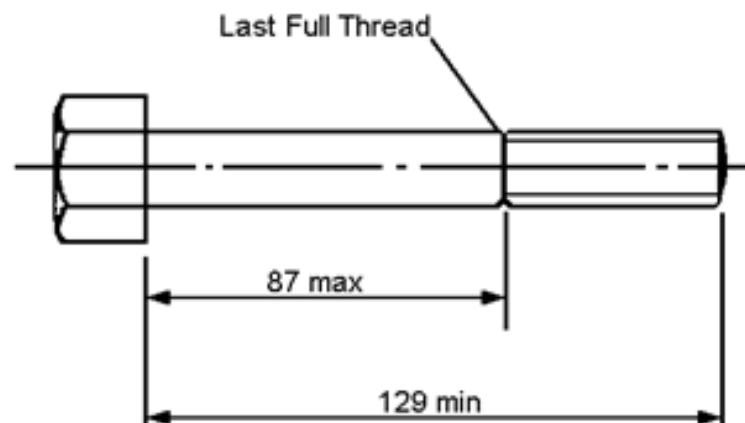

Figure 1
- 15.7 Check that the dimensions of the M16 x 130mm hex head bolts (see Materials item 5) are as shown in Figure 1.
- 15.7 Reject any bolts which do not comply with Figure 1.